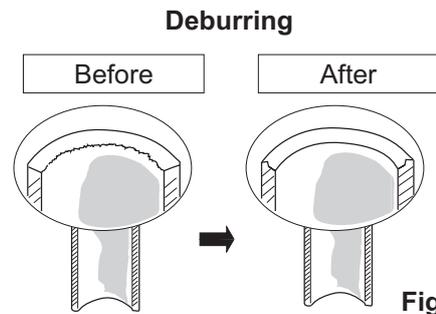

Fig. 1- 50
- (1) Cut the copper tube to the required length with a tube cutter. It is recommended to cut approx. 30 – 50 cm longer than the tubing length you estimate.
- (2) Remove burrs at each end of the copper tubing with a tube reamer or file. This process is important and should be done carefully to make a good flare. Be sure to keep any contaminants (moisture, dirt, metal filings, etc.) from entering the tubing. (Figs. 1- 50 and 1- 51)